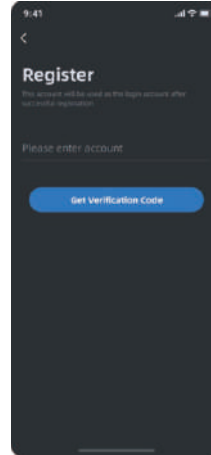

Figure 4
4)Figure 4: Enter the account and click "Get Verification Code" to enter the verification code page.